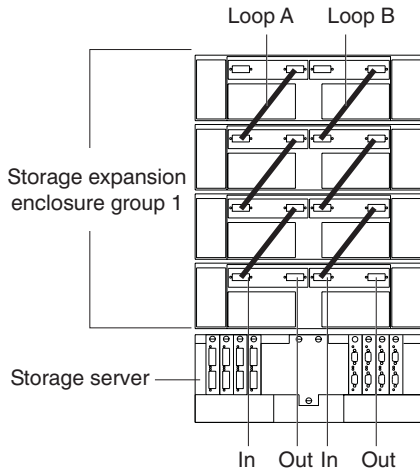

Figure 12. Connecting additional storage expansion enclosures to drive loops A and B
3. Connect additional storage expansion enclosures to drive loops A and B, as shown in Figure 12.